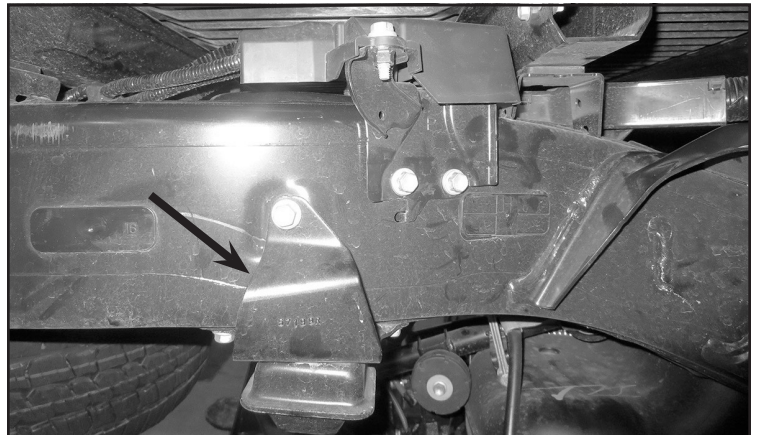

FIGURE 26 - STEP 33
33. Remove the factory rear bumpstops from the frame. Save hardware. **SEE FIGURE 26**